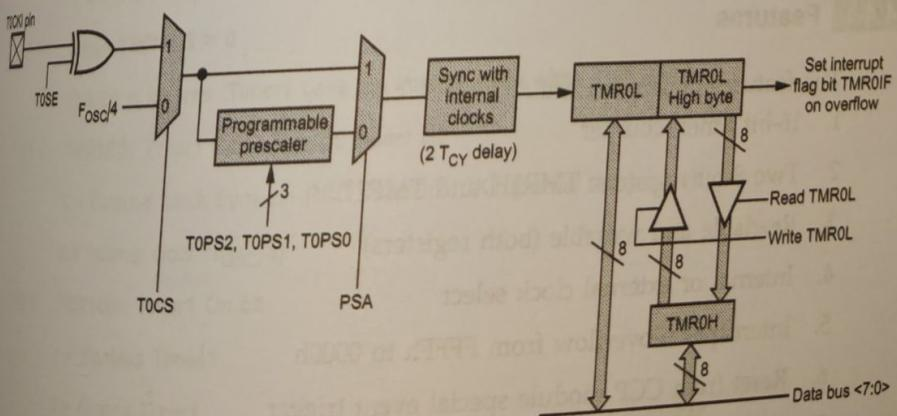

Fig. 4.3.3 Simplified block diagram of Timer 0 in 16-bit mode
- An overflow occurs when a timer register (TMR0L) has already counted the maximum value it can count (255). At overflow the counter value become 0 again. An overflow triggers an interrupt and set TMR0IF flag bit.
- Fig. 4.3.3 shows the simplified block diagram of Timer 0 in 16-bit mode.